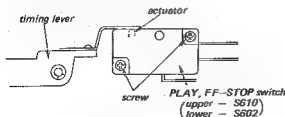

Fig. 3-7. PLAY, FF-STOP switch (S602, 610) position adjustment
1. Place the unit in the FF or REW mode, to energize the brake solenoid. Check to see that the actuator of microswitch is perfectly pushed with the timing lever as shown in Fig. 3-7. If necessary, adjust the position of the micro-switch by loosening the two switch holding screws.